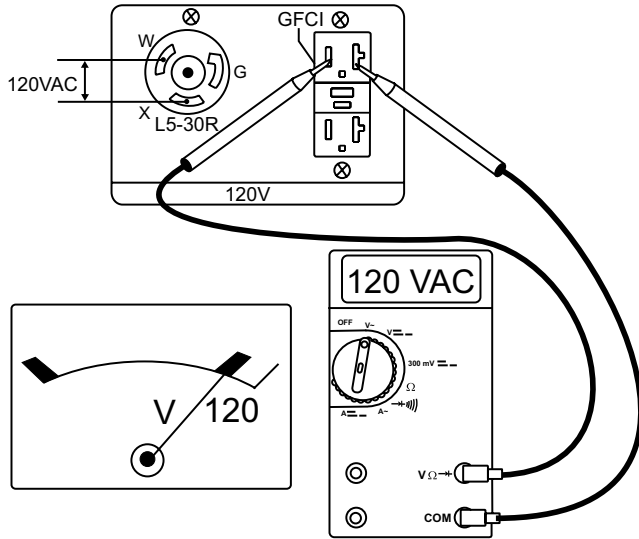

**Figure 22. Full Power Switch 120V Position (Up)**
- Place the full power switch (Figure 22) in the 120V position (up).